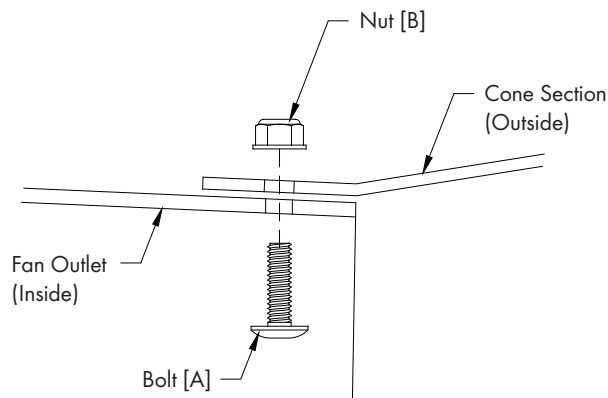

Figure 2
Rotate Cone to align with holes in fan outlet. Attach cone to fan outlet by inserting (4) Bolts [A] from inside and secure with (4) Nuts [B] on outside. *See Figure 2.*